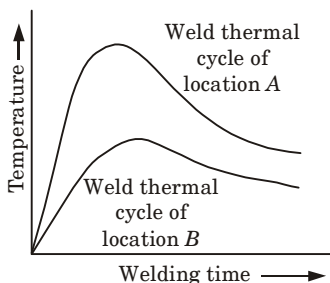

Fig. 3.1.1. Schematic of weld thermal cycle of two different locations away from the weld centre line.
3. A typical weld thermal cycle as shown in Fig. 3.1.1 the rate of heating peak temperature, and time required for attaining the peak temperature, cooling rate.